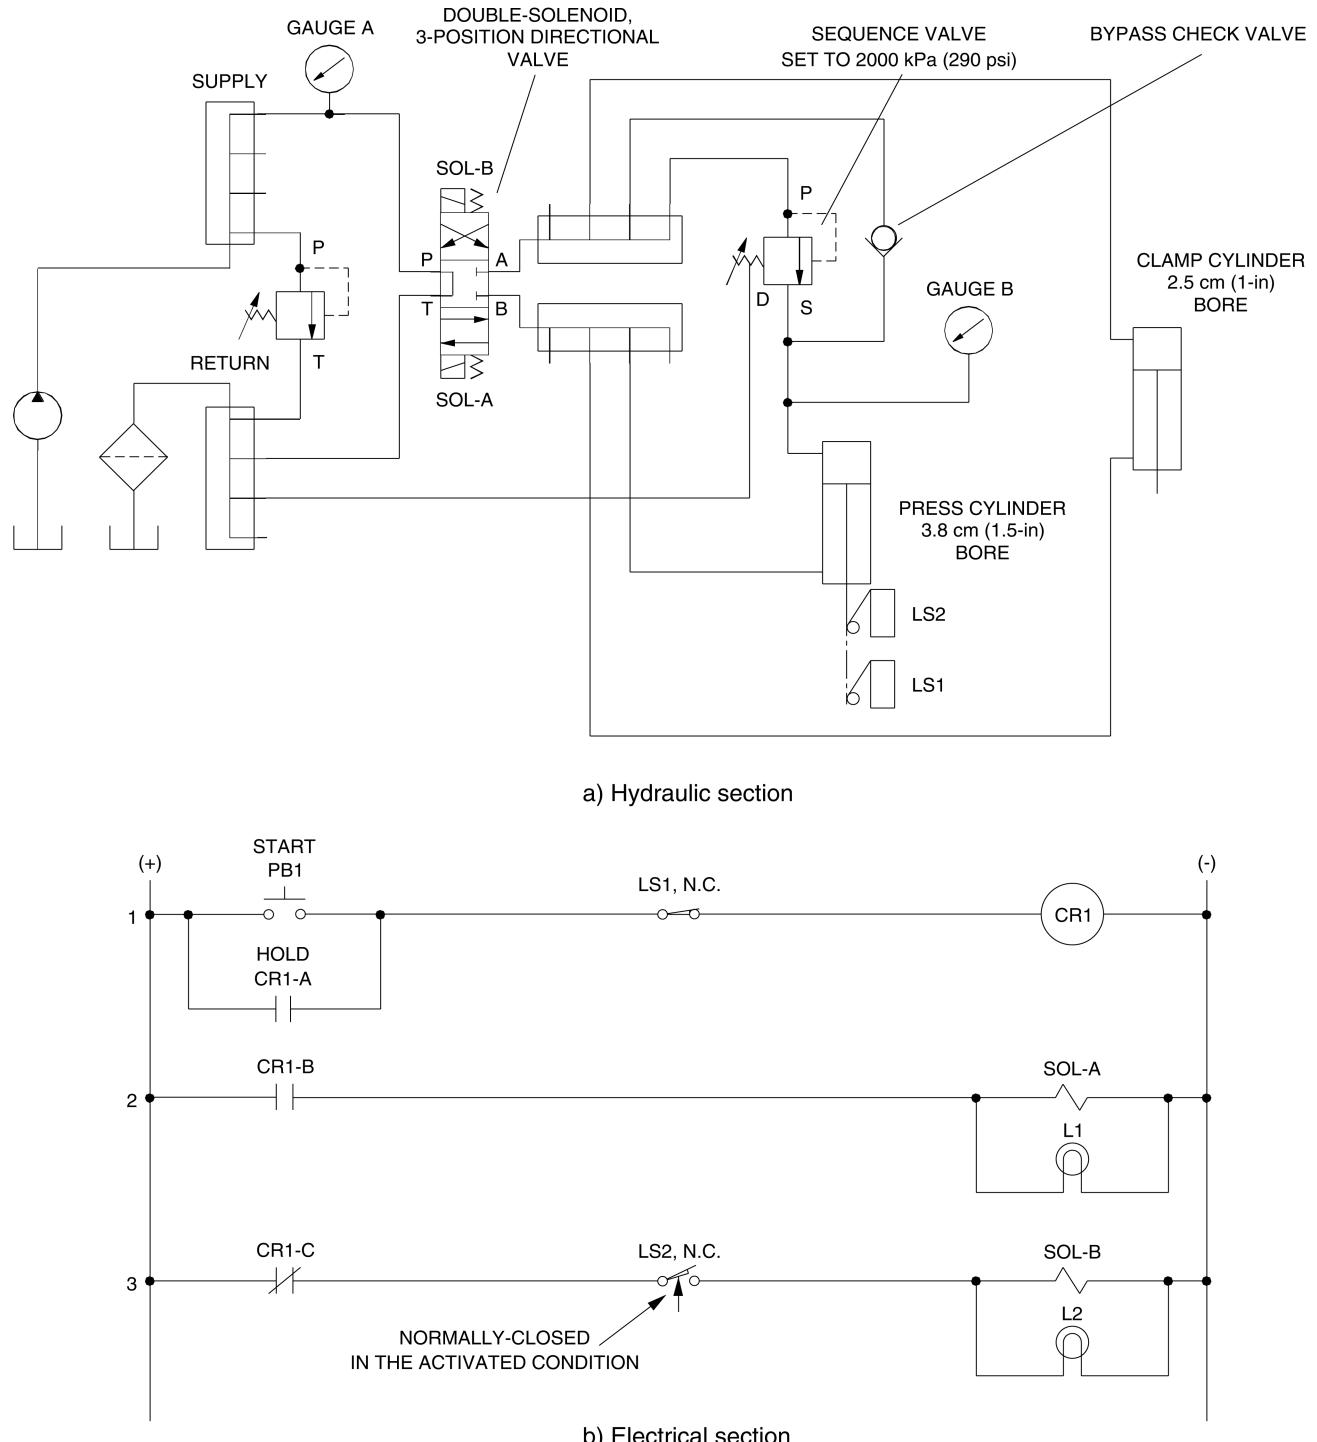

Figure 3-7. Schematic diagram of an hydraulically-sequenced clamp and press system.
- 19. Connect the system shown in Figure 3-7. As you do this, be careful not to modify the mounting of the 3.8-cm (1.5-in) bore cylinder and mechanical limit switches (LS1 and LS2).
Note that these switches are to be wired **normally closed**. In the ladder diagram of Figure 3-7 b), the side arrow on N.C. contact LS2 shows that it is being held in the open condition before the cycle starts. This is because the press cylinder [3.8-cm (1.5-in) bore], in fully retracted position, is holding mechanical limit switch LS2 activated.
Explain by referring to the ladder diagram in Figure 3-7.
26. What causes the cylinders to automatically retract when the press cylinder becomes fully extended? Explain by referring to the ladder diagram in Figure 3-7.
27. What causes the cycle to automatically stop when the press cylinder becomes fully retracted? Explain by referring to the ladder diagram in Figure 3-7.